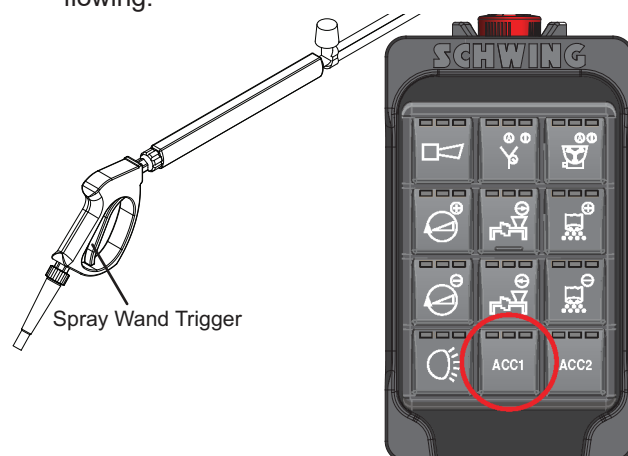

Figure 13
- Switch on the HP pump using the ACC1 button on the radio or pendant remote (Figure 13). The pump starts to work by drawing in water from the water tank and pumping it to the spray gun. If the trigger is not actuated, the HP pump cannot pump water to the spray wand.
- Ensure that the automatic operation is working properly by squeezing and releasing the spray wand trigger several times (Figure 13).
- Turn off the HP pump by pressing the ACC1 button on the radio or pendant remote (Figure 13).